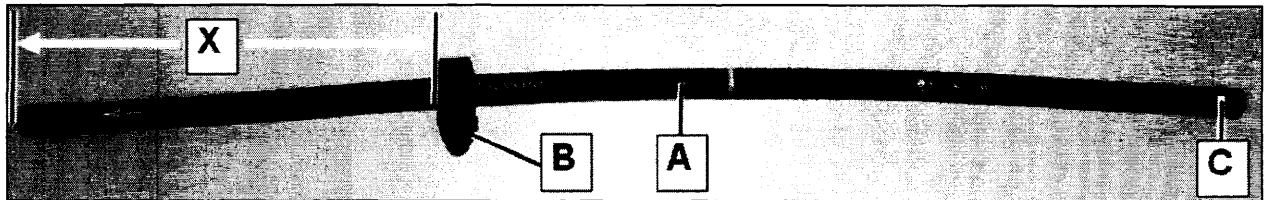
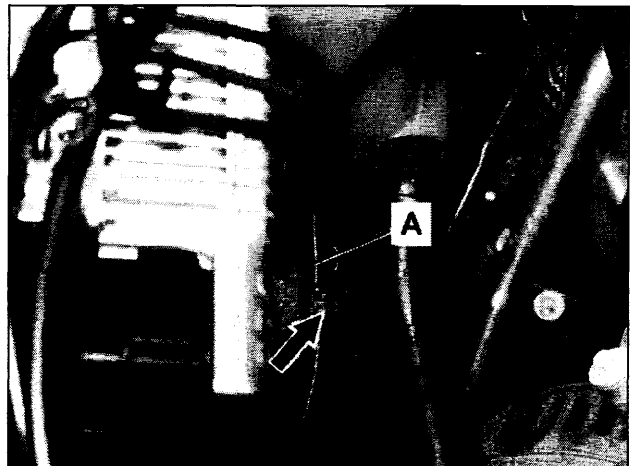

Figure 7 Dimension X = 20 cm
Figure 8
- Verify that the dimension X (Figure 7) on the **new** SBC suction hose (A) equals 20 cm. Adjust (if necessary) by repositioning the mounting clip (B) on the SBC suction hose (A).
- Place new hose clamp onto unmarked side of suction hose (C, Figure 7).
- Connect the unmarked end of the suction hose (C, Figure 7) onto the suction line (A Figure 8) and secure hose with a **new** hose clamp (arrow, Figure 8).